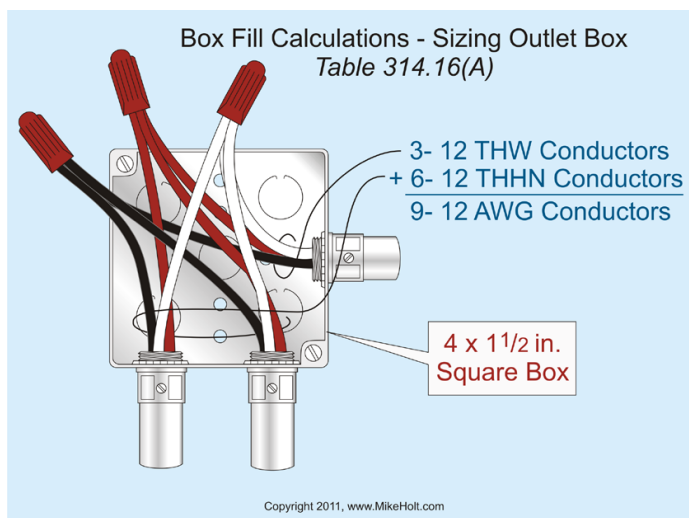

Figure 5-30
**Question:** What's the minimum depth for a 4 in. square outlet box which contains six 12 THHN conductors and three 12 THW conductors? **Figure 5-30**